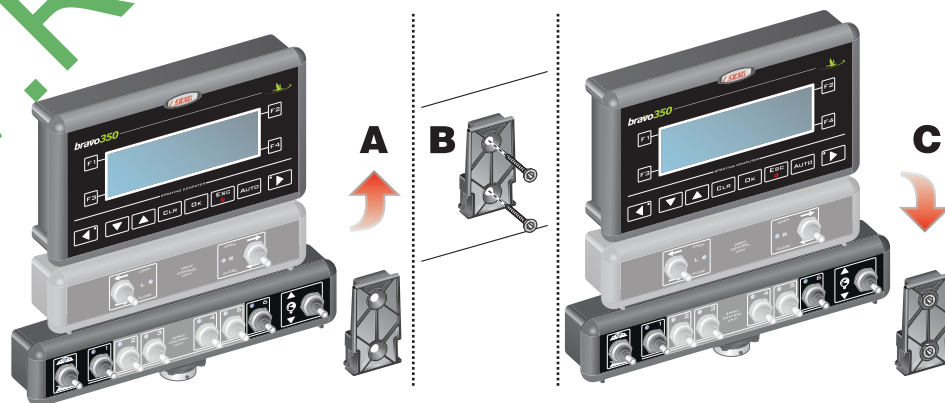

Fig. 5
The monitor must be mounted after having fixed the bracket at the desired location (the previous paragraph shows the bracket drilling template). The bracket must be slid out of the monitor seat (A, Fig. 5) and fixed using the supplied screws (B). Make sure the bracket is securely mounted; fit the monitor on it, and push it until it locks in place (C).